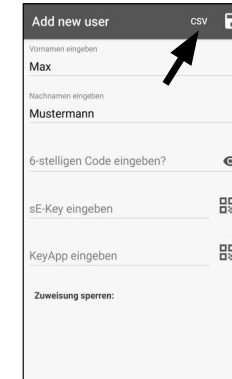

Fig. 50
- 2 Tap on "CSV" in the user menu at the top right (Fig. 50).